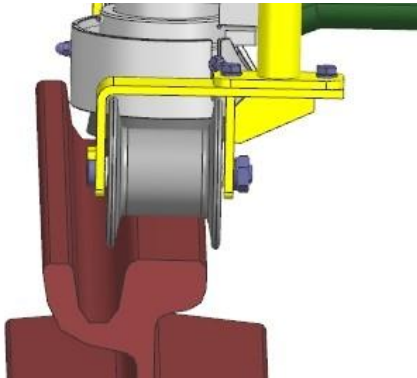

Fig. 7: Roller with double flange for exposed deep-groove rails
- with double flange for exposed deep-groove rails (Fig. 7)
7. Grinding of deep-groove and flat-groove rails (Figs. 7 to 9)